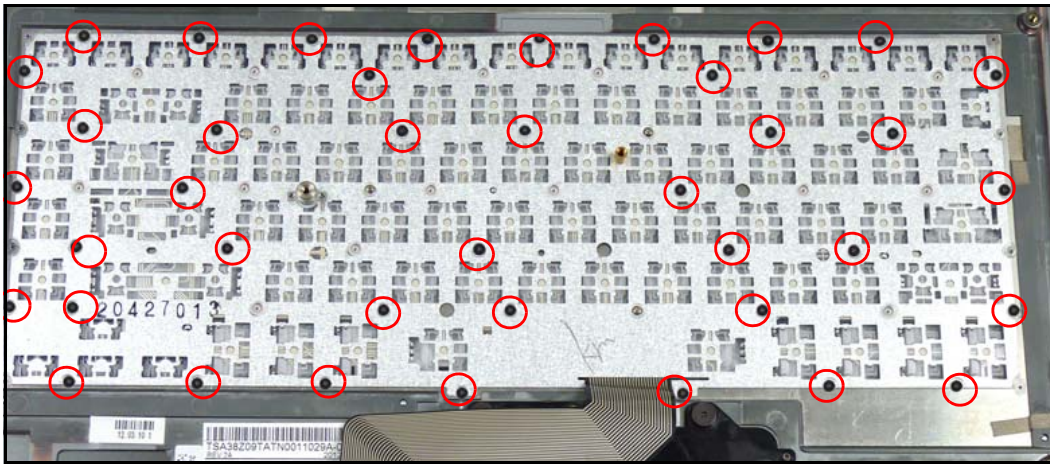

Figure 3-1. Keyboard Screw Removal
3. Lift up the keyboard (Figure 3-1).